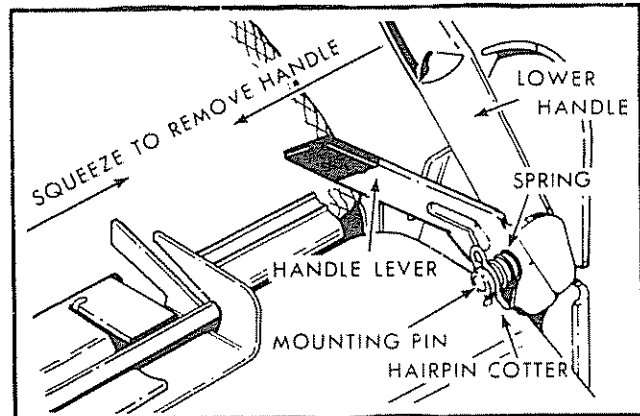

FIG 3
- c. Remove the hairpin cotters (See Fig. 3).
- e. Put handle back on mounting pins (See Fig. 3).
- f. Put springs and hairpin cotters back in mounting pins (See Fig. 3).
5. To fold handle for storage, squeeze the handle levers until lower handle clears handle brackets, then move handle forward (See Fig. 3).